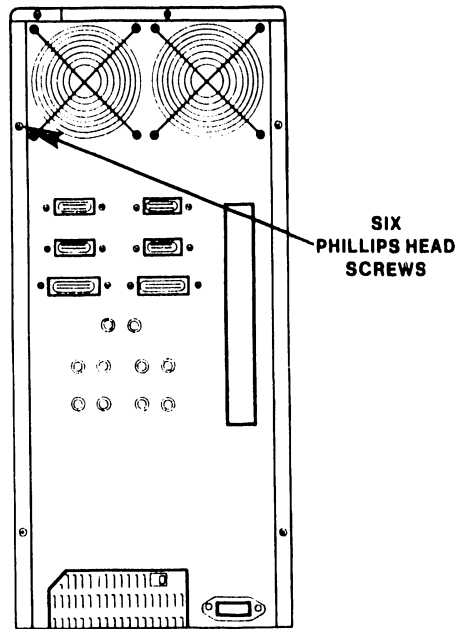

Figure 4-20 40/50 Master Rear Panel Removal
3. The left side cover cannot be removed without first removing the right side cover. Using a Phillips-head screwdriver, remove six screws (from the rear) that secure the right and left side cover(s) to the master chassis (Figure 4-20).